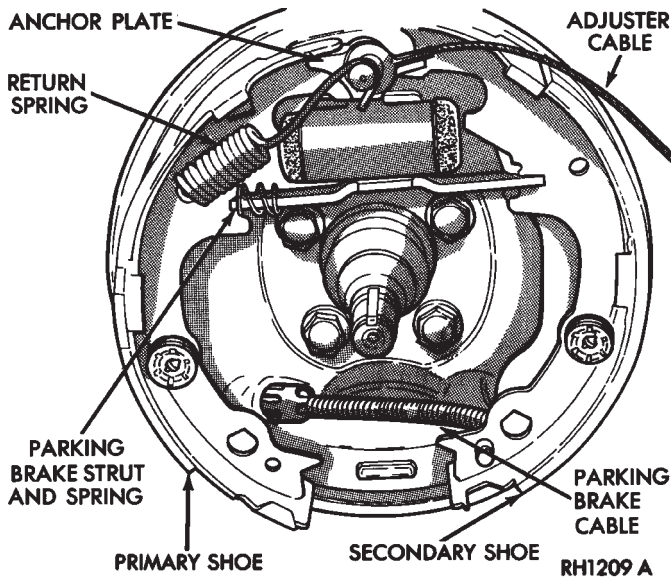

Fig. 7 Installing Parking Brake Cable
(5) Engage parking brake lever with cable. Install parking brake lever into rectangular hole of secondary brake shoe (left side) or primary shoe (right side) (Fig. 7).
(6) Slide secondary shoe into position and engage with wheel cylinder piston and free end of strut. In-